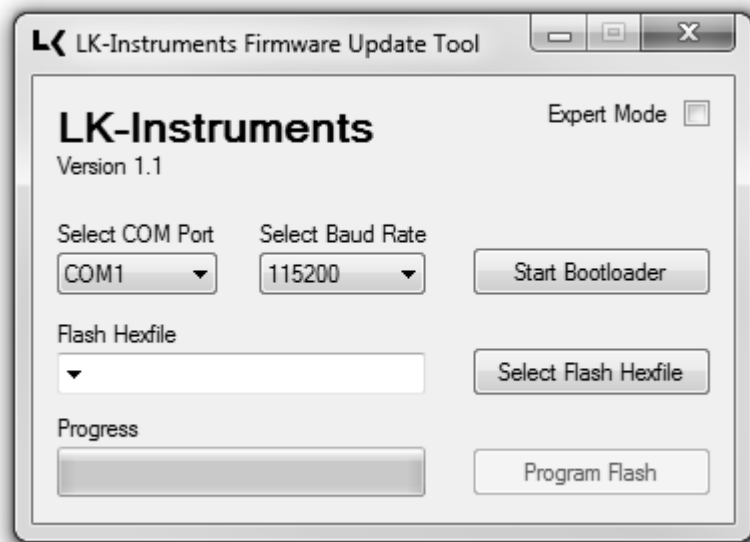

Figure 5.1: LK-Instruments Firmware Update Tool.
- Run the `LK-Instruments Firmware Update Tool.exe`; a window similar to the one shown in figure 5.1 will open.